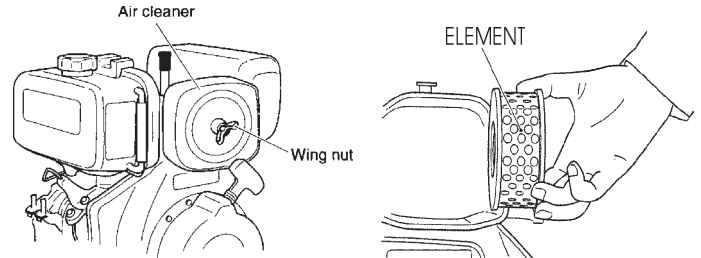

Figure 17. Engine Air Filter
1. Remove the air cleaner cover and foam filter element as shown in Figure 17.
2. Tap the paper filter element (Figure 17) several times on a hard surface to remove dirt, or blow compressed air [not exceeding 30 psi (207 kPa, 2.1 kgf/cm2)] through the filter element from the air cleaner case side.